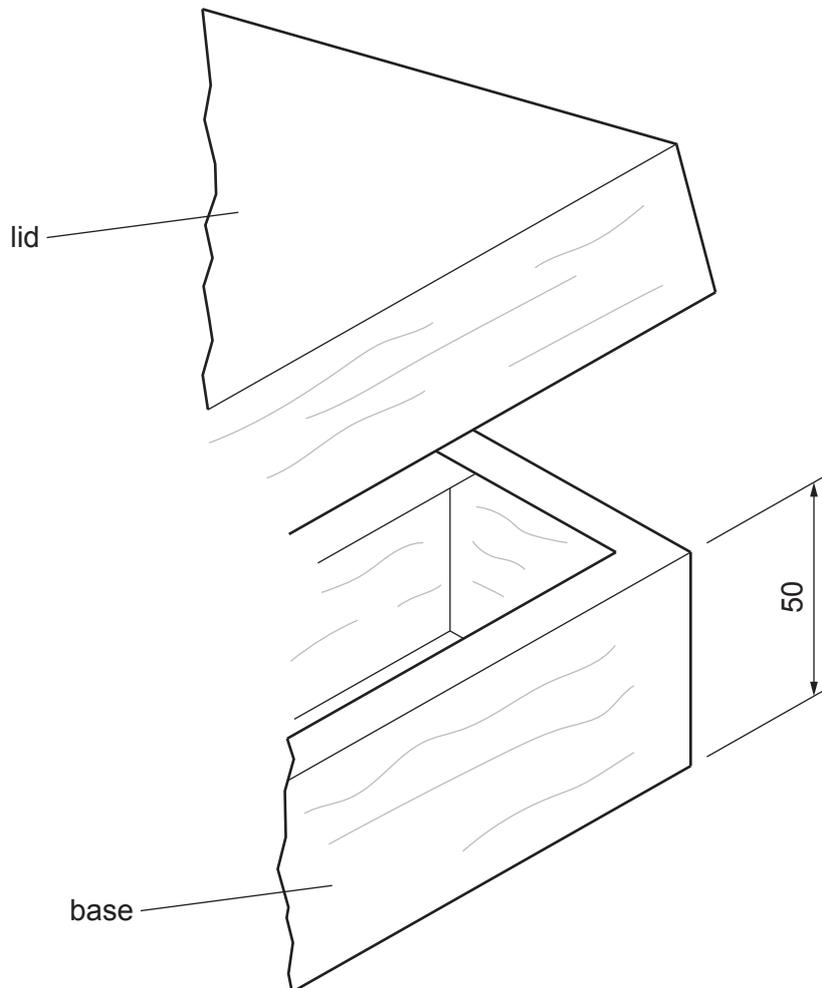

Fig. 13.6
- Fig. 13.6 shows part of the lid and the base of the case. Add sketches to Fig. 13.6 to show parts **A** and **B** of the toggle catch in suitable positions on the lid and base of the case.